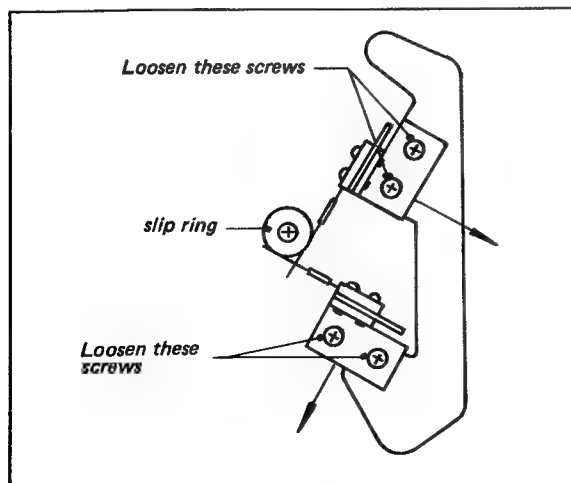

Fig. 4-4. Preparation for video head replacement
2. Remove the two Phillips-head screws that hold down the cover plate. Loosen the brush pressure adjusting screws and remove the brush from the spring as shown in Fig. 4-4.